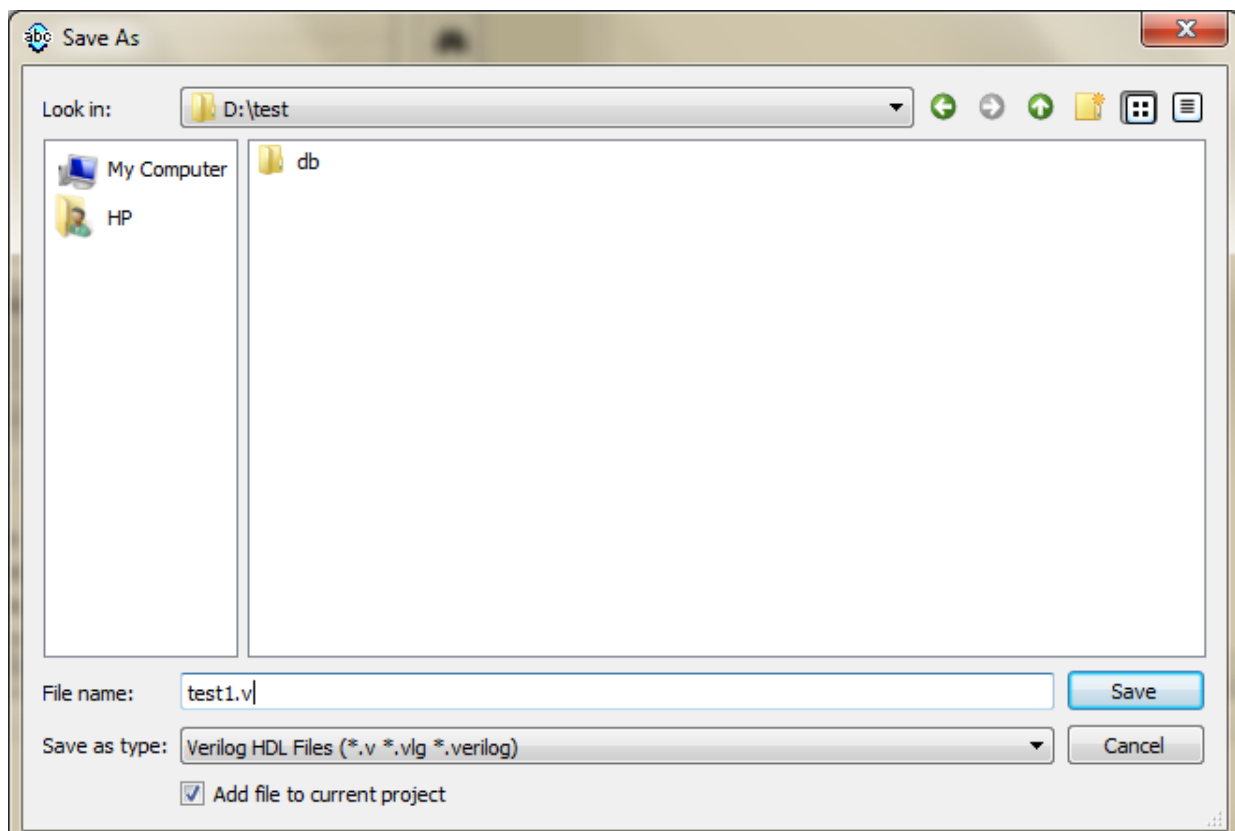

Figure 15. Name the file
- This open the text editor window. Select **File > Save As** to open the pop-box depicted in Figure 15.